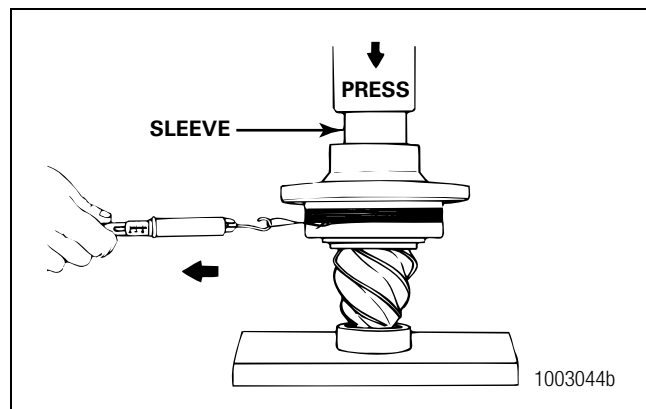

Figure 5.13
- Install a sleeve of the correct size against the inner race of the outer bearing. Figure 5.13.
- Pull the cord on a horizontal line. As the bearing cage rotates, read the value indicated on the scale. Record the reading. Figure 5.13.